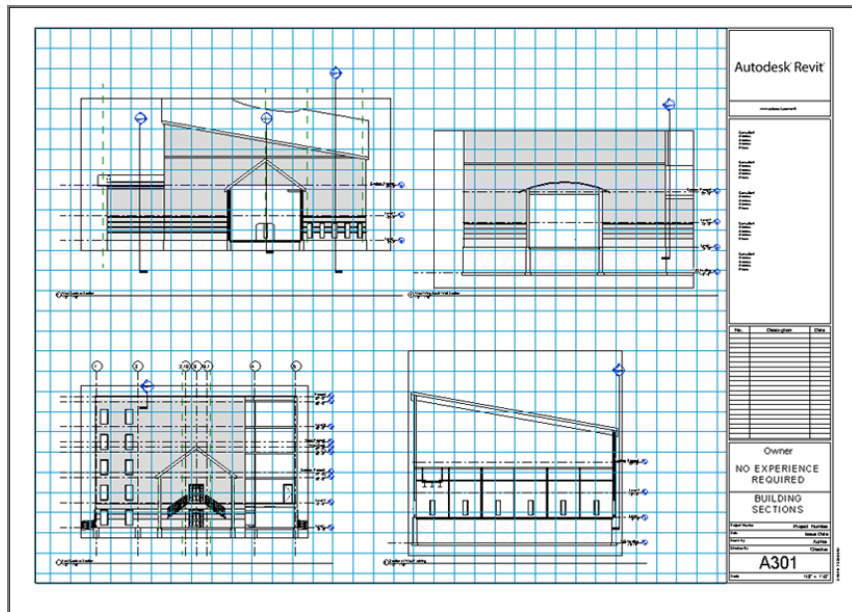

FIGURE 14.8: The completed sheet A301
If you feel as though you have enough experience creating a sheet and adding views, go ahead and proceed on your own. Your new sheet will be numbered A301 and will be called Building Sections, and you'll add the views East Corridor Section, West Corridor Section, Section at West Training, and West Wing South Wall Section. Your sheet should look like Figure 14.8.
11. Drag the section called West Wing South Wall Section to the right of West Corridor Section and directly above Section At West Training. The alignment lines allow you to place the section accurately. After you have these four sections in place, your sheet A301 should look like Figure 14.8.